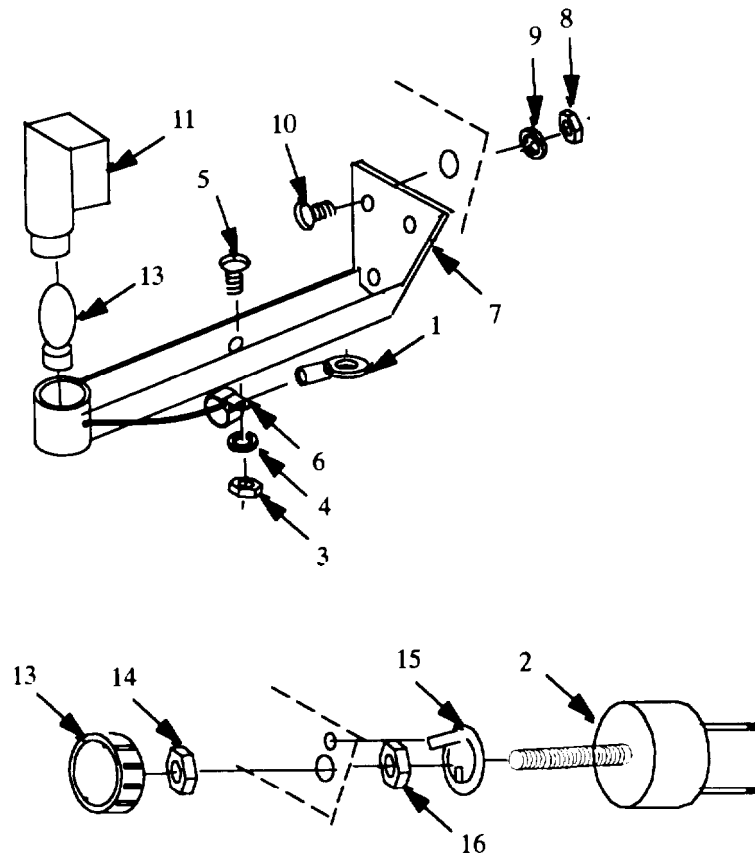

Figure 4-50.1. Panel Light/Rheostat Replacement (Model 350 PAWN).
4.13.10.5 Removal. (Refer to figure 4-50.1)**WARNING**
- a. Disconnect wire (1) from rheostat(2) behind control panel.
- b. Remove nut(3), lockwasher(4), and screw(5) and clamp(6) from bracket support(7).
- c. Remove nuts(8), lockwashers(9), screws(10) and bracket support(7) from control panel.
- d. Remove hood(11) and incandescent light(12) from bracket support(7).
- f. Loosen setscrew in knob(13) and remove knob from rheostat(2).
- g. Remove nut(14) and pull rheostat(2) from back of control panel.
- h. Remove locating washer(15) and nut(16) from rheostat(2).
4.13.10.6 Repair. (Refer to figure 4-50.1)
4.13.10.7 Installation. (Refer to figure 4-50.1)
- a. Install locating washer(15) and nut(16) on rheostat. Tab on locating washer must point away from rheostat.
- b. Align tap on locating washer(15) with hole on control panel and push rheostat(2) through control panel.
- c. Install nut(14) on shaft of rheostat(2) and secure rheostat to control panel.
- d. Position knob(13) on shaft of rheostat(2) and tighten setscrew in knob.
- e. Position and secure bracket support(7) onto control panel with nuts(8), lockwashers(9) and screws(10.)
- f. Place wire through clamp(6) and secure clamp on bracket support(7) with nut(3), lockwasher(4), and screw(5).
- g. Install incandescent light(12) and hood(11) on bracket support(7).